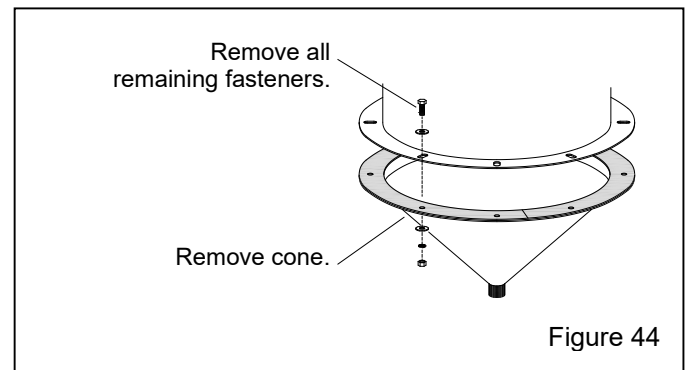

Figure 44
7.12.5 Remove the remaining fasteners, securing the cone to the lower flange, and then remove the cone, as shown in Figure 44.